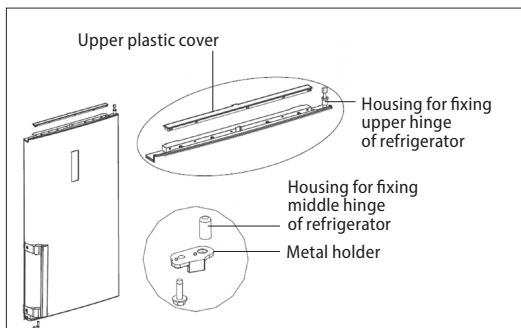

Fig. 4
7. Remove the upper plastic cover from the top edge of the refrigerator door (Fig. 4).
8. Remove the housing for fixing the upper refrigerator hinge and place it on the other side of the door (Fig. 4). After moving the case, place the top plastic cover back.
9. Remove the plastic stop, the metal holder, and the housing for fixing the middle hinge of the refrigerator from the bottom edge of the refrigerator door (Fig. 4).
10. In the package with accessories, you can find the metal holder which, together with the housing, is to be installed on the other bottom edge of the refrigerator door (Fig. 4).